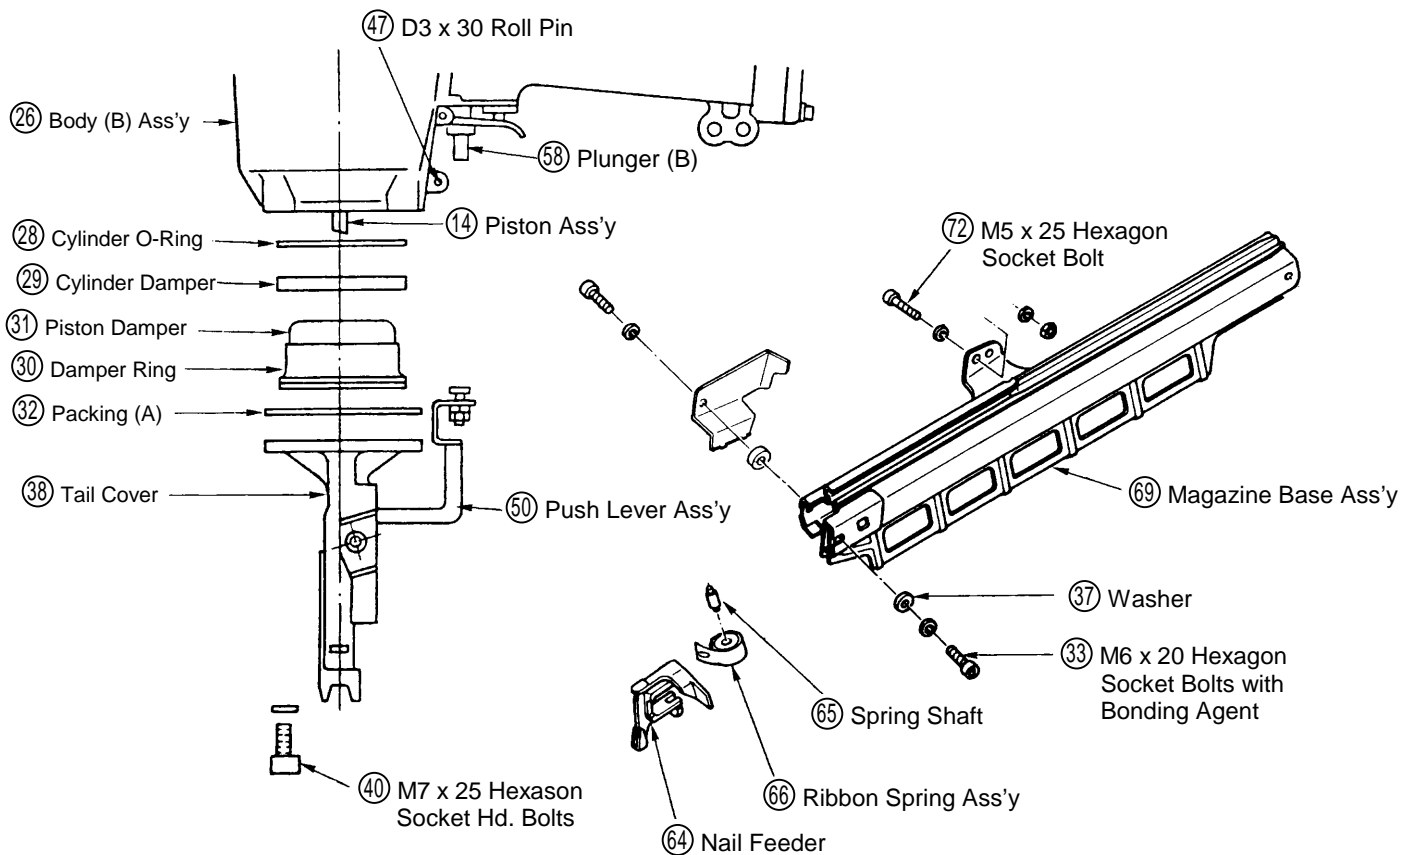
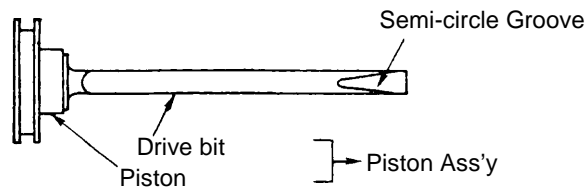

Fig. 7 Disassembly and Reassembly of the Piston Damper, Packing (A), etc.
Fig. 8 Semi-circle groove of piston ass'y
- Ensure that the Piston Ass'y (14) is positioned so its semicircular groove faces toward the Magazine side (see Fig. 8 below).
- Plunger (B) (58) may drop out during disassembly. Ensure it is properly assembled.
- Assemble the Body (B) Ass'y (26), Tail Cover (38), and Magazine Ass'y (81) in the following manner:
- With the Push Lever Ass'y (50) properly mounted on the Tail Cover (38) as illustrated in Fig. 7, assemble the Tail Cover (38) to the Body (B) Ass'y (26) with the four M8 x 25 Hexagon Socket Hd. Bolts (40), and tighten them to rated torque (see para. 1-4).
- Ensure that the Piston Ass'y (14) is positioned so its semicircular groove faces toward the Magazine (see Fig. 8 above).